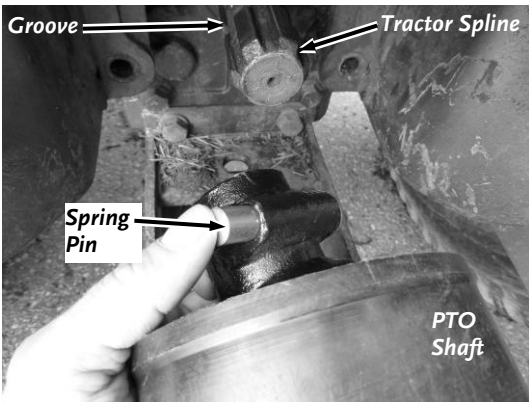

Figure 18
- Push in the Spring Pin at the end of the PTO Shaft and slide it onto the Tractor Spline (Figure 18). When the PTO Shaft is started on the Tractor Spline Shaft, release the Pin and continue to push the PTO Shaft until the Spring Pin locks into the Groove of the Tractor Spline.